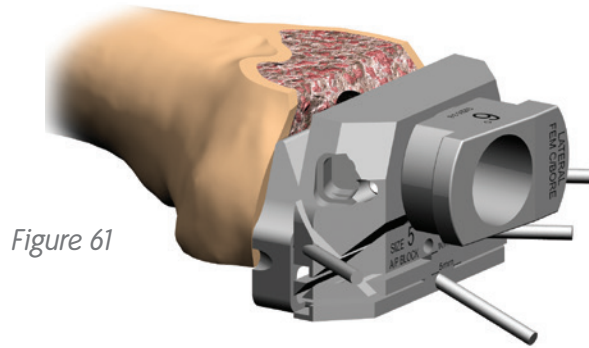

Figure 61
13. Insert the femoral counterbore guide bushing into the A/P cutting block, ensuring that the “LATERAL” notation on the collet is correctly positioned for a left or right knee (Figure 61).